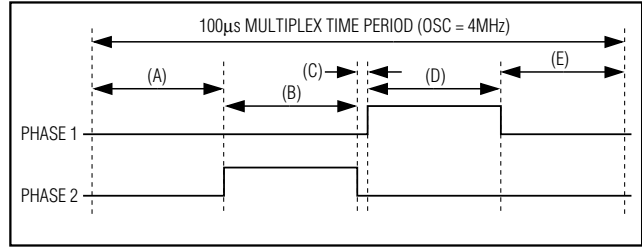

Figure 18. Filament Bridge Driver Timing Waveforms
The waveform generation uses PWM to set the effective RMS voltage across the filament, as a fraction of the external supply voltage (Figure 18) (Table 35). The filament switching frequency is synchronized to the multiplex scan clock, eliminating beating artifacts due to differing filament and multiplex frequencies.
The minimum commutation time, shown at (C) in Figure 18, is set by $(2/\text{OSC})\text{s}$ (500ns when OSC = 4MHz) to ensure that shoot-through currents cannot flow during phase reversal. Otherwise, the duty cycle of the bridge sets the RMS voltage across the filament. This technique provides a low-cost AC filament supply when using a regulated supply higher than the RMS voltage rating of the filament.